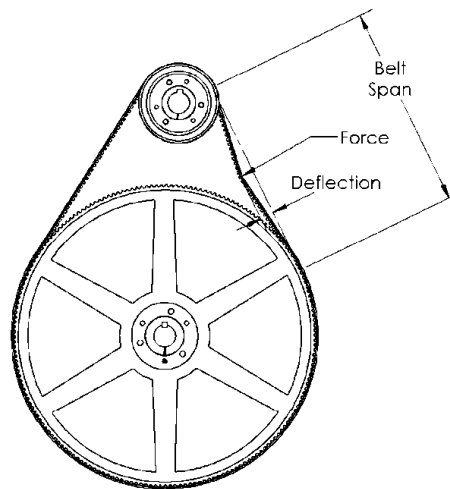

Figure 11: Belt Installation/Adjustment
11. From **Figure 11** determine the deflection required for the belt. The deflection height is $1/64''$ per inch of span (15.6mm/m). For example, a 32" span length requires a deflection of $32/64''$ or $1/2''$. To measure the deflection height, place a straightedge from sprocket to sprocket on top of the belt or wrap a string or steel tape around the sprockets on top of the belt.
13. Using a spring scale, apply a perpendicular force to the belt at the mid-point of the span as shown in **Figure 11**. For belts wider than 2 inches (50 mm), it is suggested that a rigid piece of key-stock or something similar be placed across the belt between the point of force and the belt to prevent distortion. Compare this deflection force value to that found in Table 6 and adjust the tension accordingly.